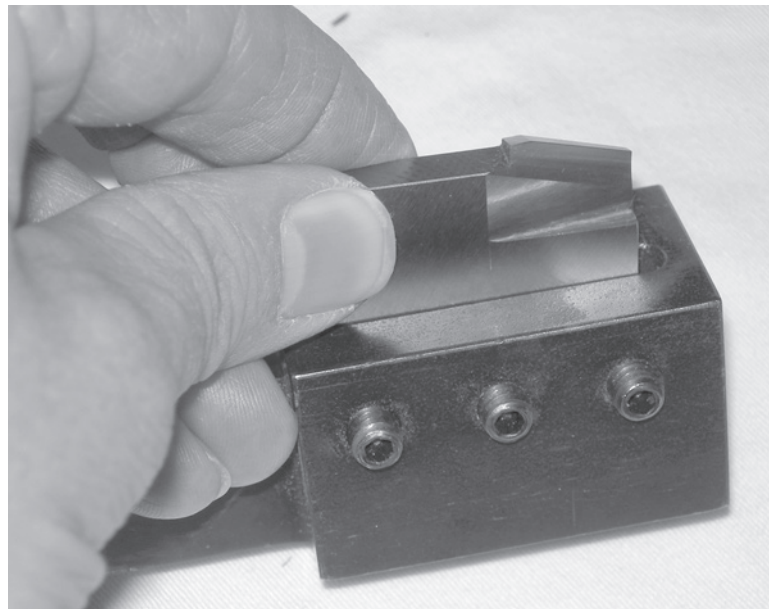

Figure 3-7. Insert the counterbore tool in the holder as shown. Tighten the three set screws on the holder.
- 2.** Insert the counterbore tool in the tool holder as shown in Figure 3-7. Tighten the three set screws on the tool holder.